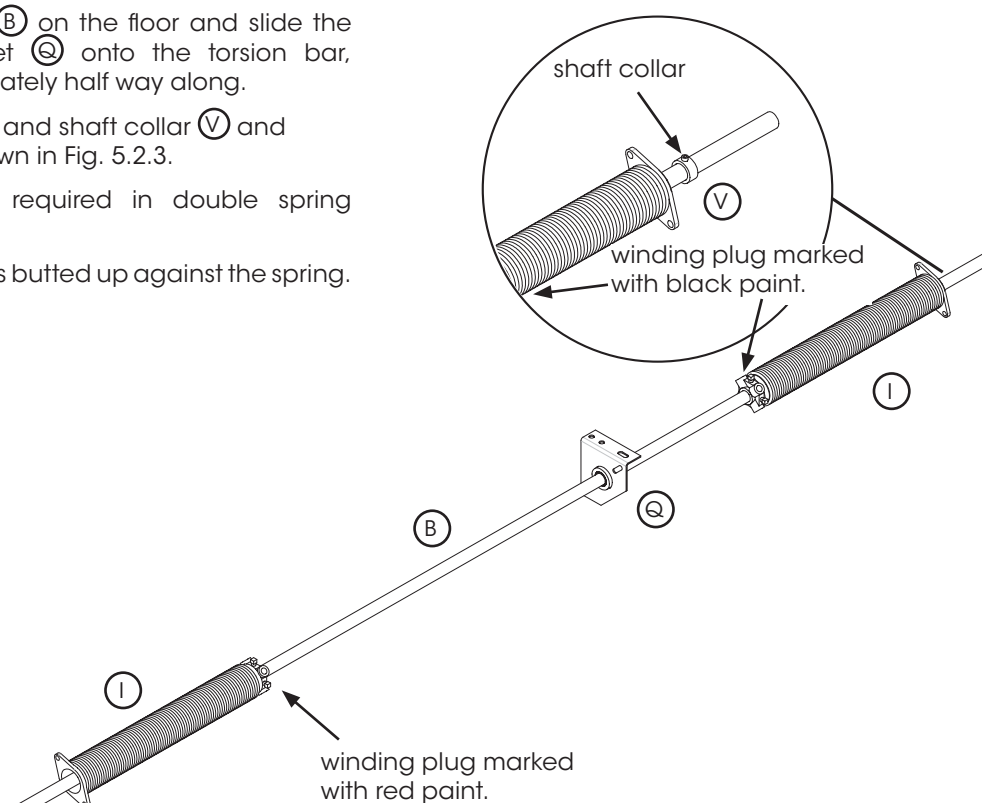

Fig: 5.2.3
The springs and drums for the counterbalance system are now colour coded to easily identify which side of the centre bracket the spring is placed. Fig. 5.2.3.
- Place the torsion bar (B) on the floor and slide the spring anchor bracket (Q) onto the torsion bar, positioning it approximately half way along.
- Locate the spring/s (I) and shaft collar (V) and assemble them as shown in Fig. 5.2.3.